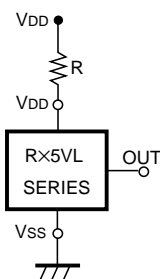

FIG. 8
1. When R5VL×C (CMOS Output) is used in FIG. 8, this IC may oscillate by the through-type current at the detection when impedance is connected between Power Source VDD and R5VL VDD Pin. When R5VL×A (Nch Open Drain Output) is used in FIG. 8, and R becomes excessively large, Detector Threshold may be varied because of the voltage drop of the supply current in the IC itself.